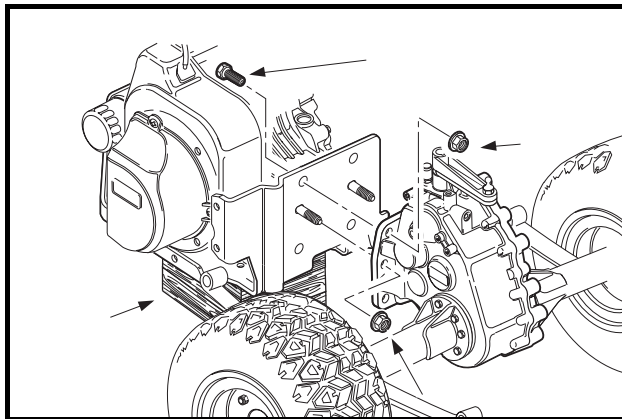

Figure 19-34 Transaxle Mounting
- 21.1. Remove four transaxle mounting bolts (one at each corner of the transaxle mounting plate) (**Figure 19-34, Page 19-13**).